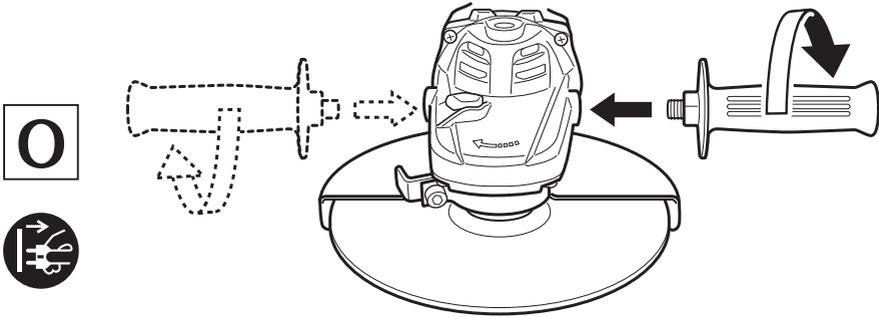

Fig. 2
2. Fixing the side handle (Fig. 2)